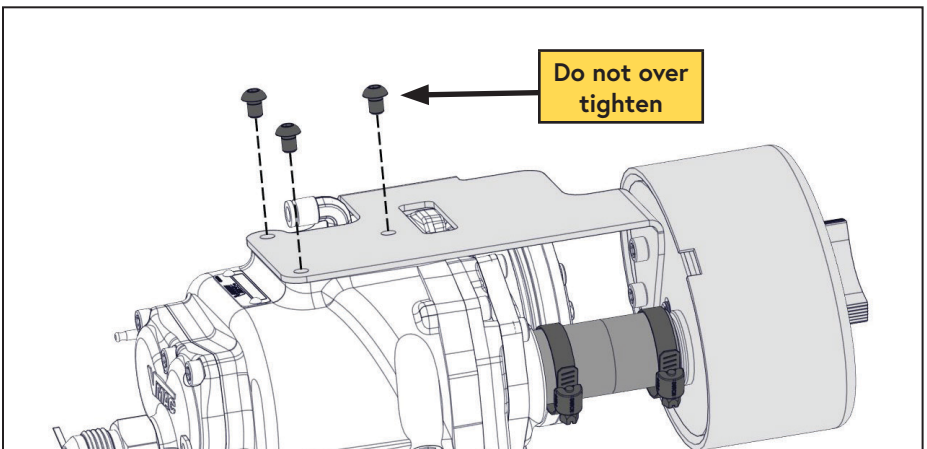

Figure 14 — Intake air filter
- Install the compressor intake air filter assembly (Figure 14)*.